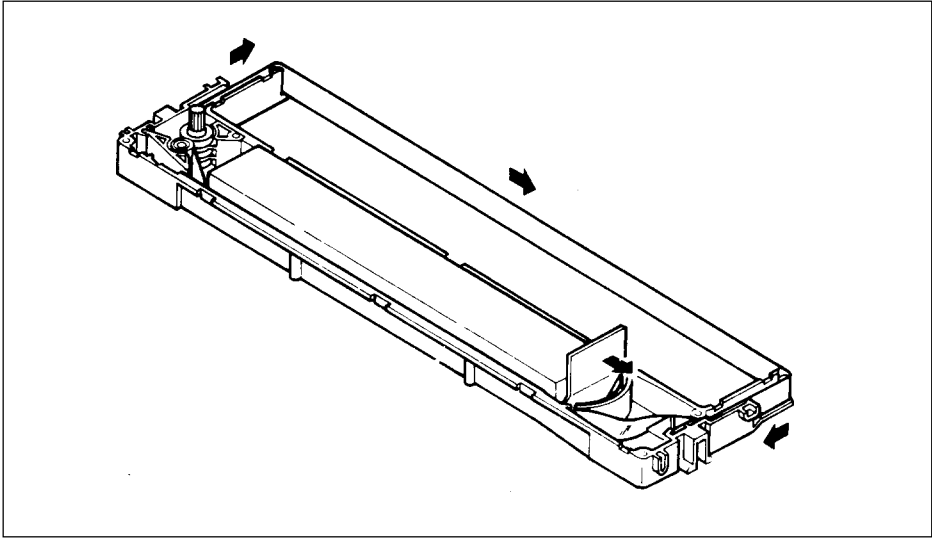

Figure 3-3. Make sure that the ribbon is not twisted when you thread it through its path.
- Take the new ribbon and holder out of the wrapper, remove the adhesive tape on the joint, and place the ribbon holder into the cassette as shown in Figure 3-3.
- Pull out the ribbon and thread it as shown in Figure 3-3. It's easy for the ribbon to get twisted along its path, so be careful.